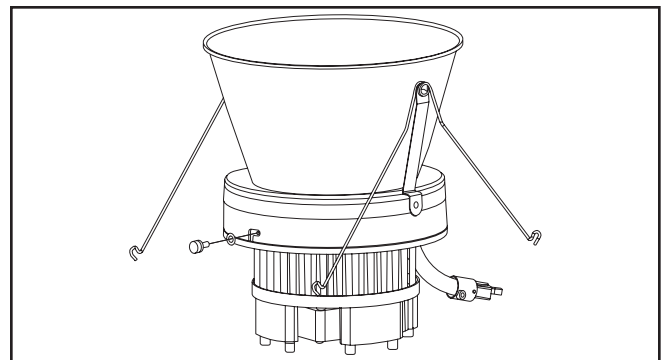

Figure 3.
3. Place LED Engine into Lower trim. Align trim slots with engine screw holes (Figure 3.).